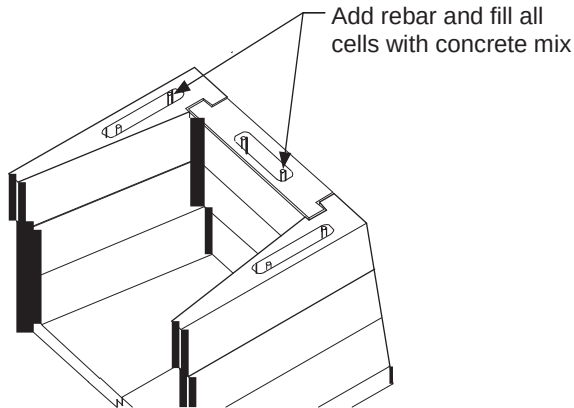
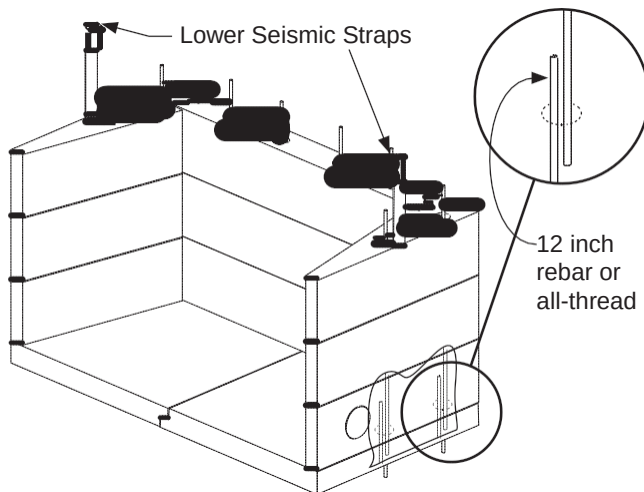

**Figure 41- Inserting Rebar and adding Ready Mix Concrete**
**Figure 42 - Attaching Lower Seismic Straps**
7) Insert 28" long rebar (8 total, included with fireplace) vertically through the cells, into the holes in the hearth, adjacent to the rebar and/or all-thread sticking up from the hearth (Figure 42). Mix approximately 2 cu. ft. of Ready-Mix Concrete (not included) and fill all cells in walls and rear of firebox completely (Figure 41).
8) Attach Lower Seismic Straps to rebar closest to the front as shown in Figure 42.